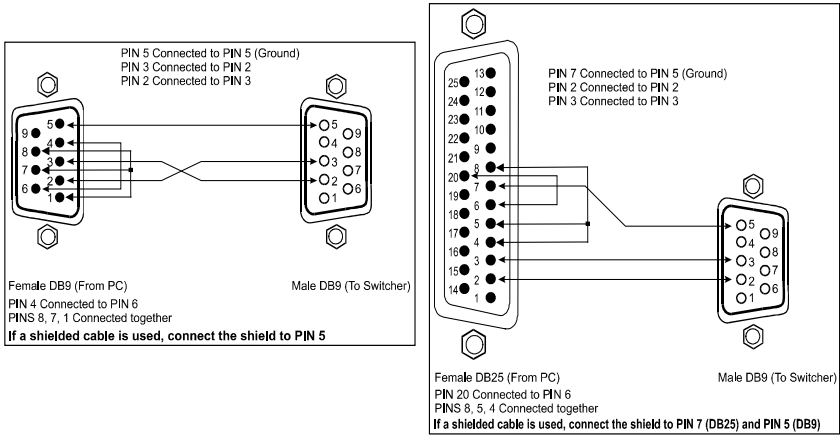

Figure 7: Connecting a PC Without Using a Null-Modem Adapter
- Connect the RS-232 9-pin D-sub (F) port on your PC to the RS-232 9-pin D-sub (F) rear panel port on the **VP-1608** unit², as illustrated in Figure 7 (depending on whether the PC has a 9-pin or 25-pin connector)